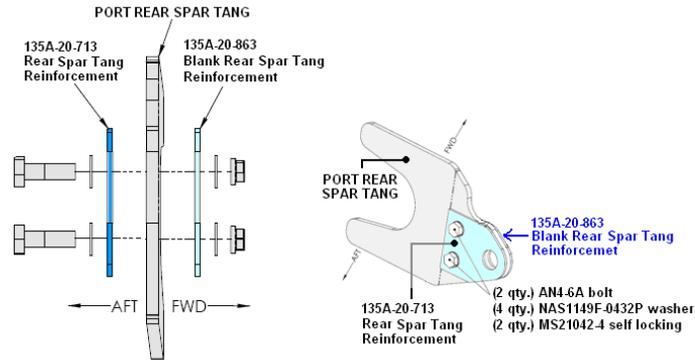

Figure 57-1 Port Rear Spar Tang Reinforcement Installation
4. Position one (1 qty.) reinforcement (P/N: 135A-20-713) on the aft side of the aft wing tang and one (1 qty.) blank reinforcement (P/N: 135A-20-863) on the forward side of the aft wing tang, as shown in Figure 57-1 and Figure 57-2.
8. Repeat procedure for the opposite wing. Then push the wing pins back in making sure they have gone back all the way. The installed spar tang reinforcement is shown in Figure 57-1.